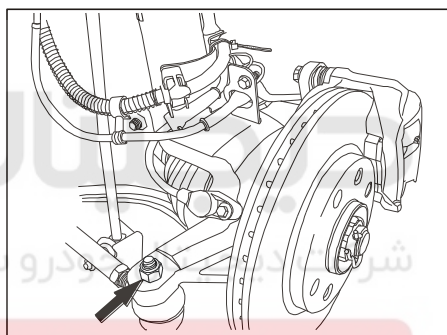

Figure 6-20 Disassembly of steering ball
2. Remove the steering ball from steering knuckle as shown in Figure 6-20.